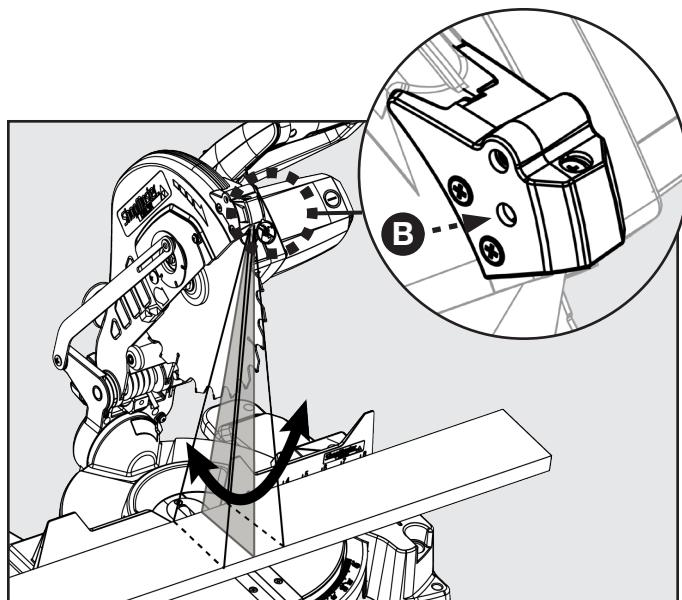

FIGURE 26
If you notice the laser line does not remain parallel to the blade as the saw head is lowered to make a cut refer to Figure 26 and follow these instructions: using a Phillips head screwdriver turn the screw (B) to adjust the vertical angle of the laser.